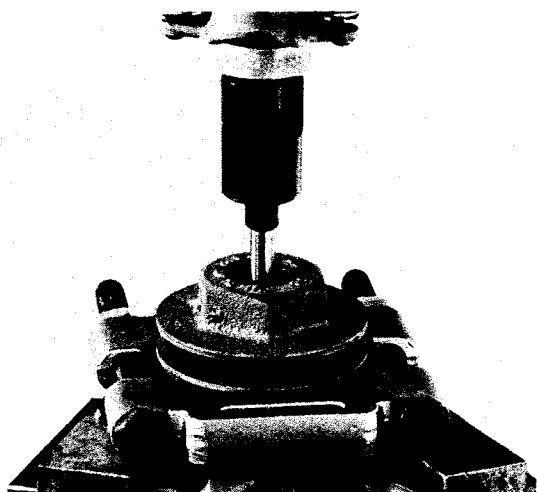

Fig. 8-16, (N10862). Press idler shaft assembly from pulley
1. Remove large pipe plug (17) from idler pulley (19).
2. Remove small snap ring (18) from shaft (23).
3. Using 3375326 Bearing Separator to support idler pulley (19), press shaft and bracket assembly (20) from pulley. Fig. 8-16.
4. Remove oil seal (22) and snap ring (2). Using a flat end punch through the pipe plug hole in face of pulley, drive bearing out of pulley.